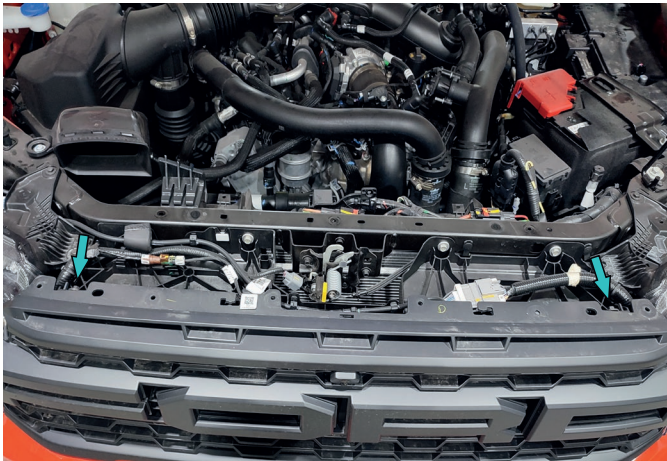

Fig.9
9. Unscrew factory bolts (fig.9).